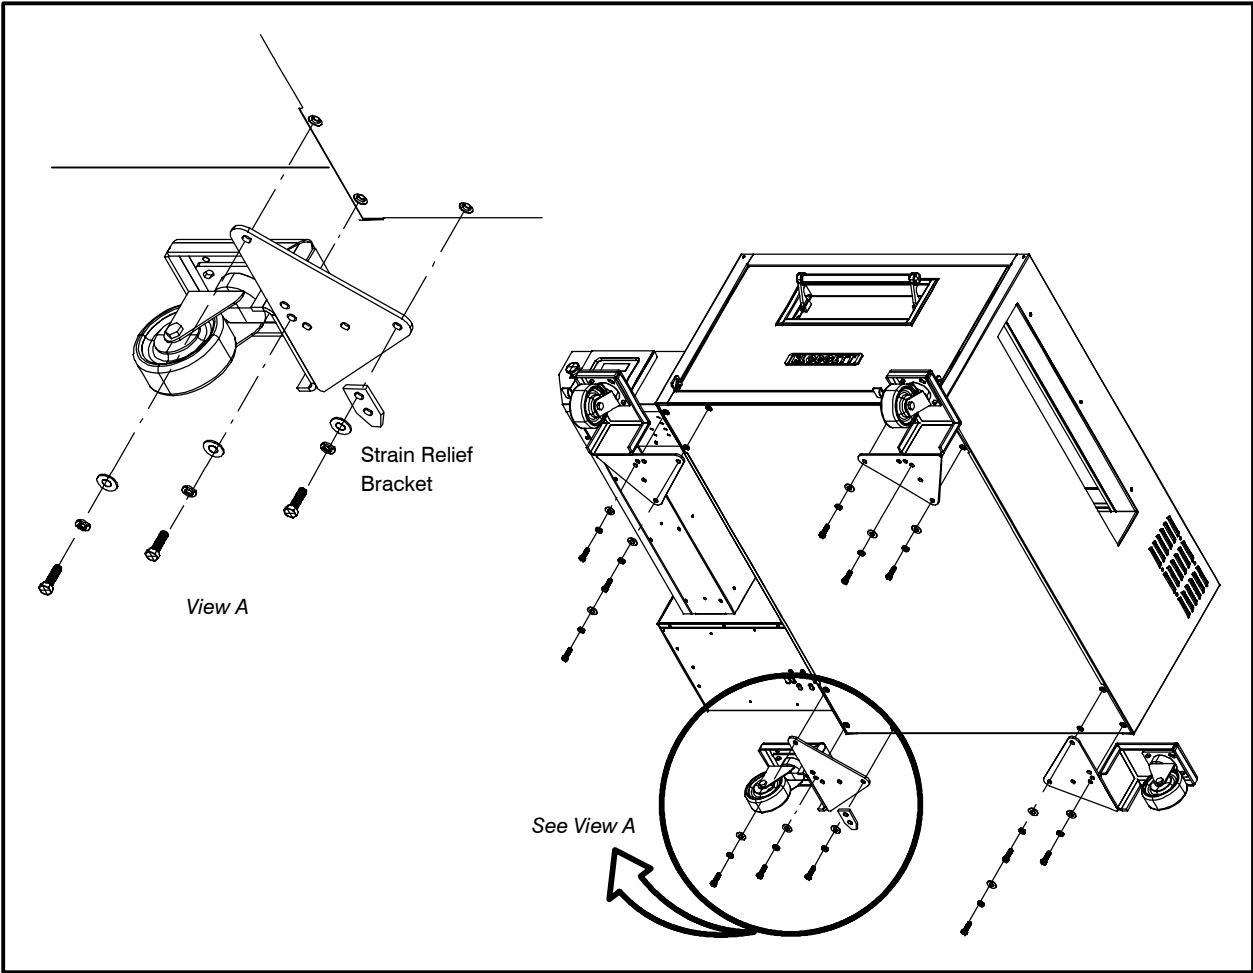

Figure 5
1. Mount the caster assemblies to the oven with 3/8-16 x .125 cap screws, lockwashers and washers. See Figure 5 for correct caster orientation.
On gas models attach the restraint bracket to the left rear caster as shown in Figure 5.